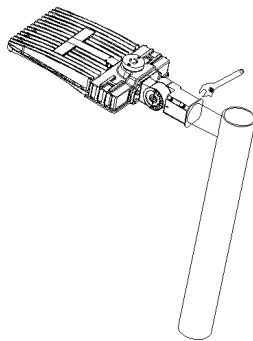

Fig 2.
3. Tighten slip-fitter onto Tenon using the included hardware, make sure all bolts are secure. **See figure 2.**